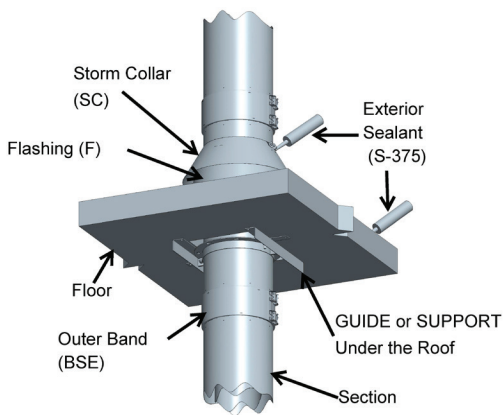

Figure 64b - Installation of Flashing- View under the Roof
3. For lateral stability, supports or guides must be used. The Heavy Duty Floor Guide (WSD) must be installed either on top or under the roof (See **Figure 64b** for guide under the roof). Any supports (AP, APL or WSD) or a Full Angle Ring must be installed below.